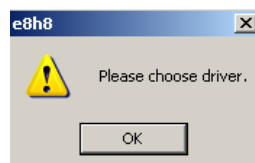

Figure 7: Choose Driver
- d.) The first time the E8 is used, you are asked to choose the driver (Figure 7). Click <OK>.